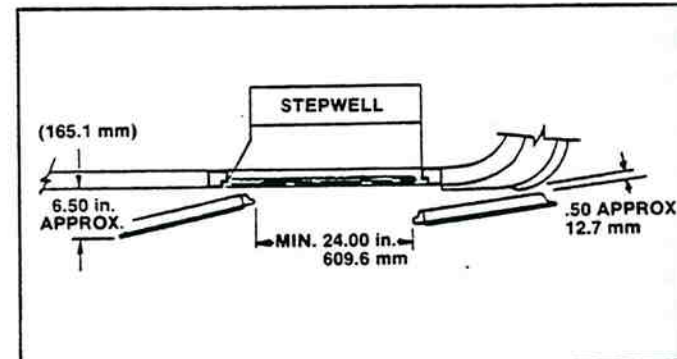

Figure 3-32. Door Open Dimensions.
6. With air on and door open, check for conformance to dimensions as shown in figure 3-32.